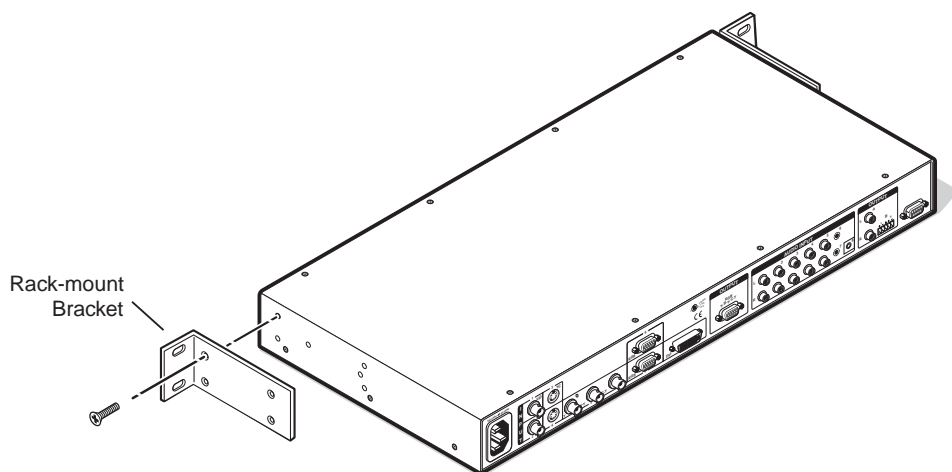

Figure 2-1 — Mounting the switcher
The following Underwriters Laboratories (UL) requirements pertain to the installation of the switcher into a rack (figure 2-1).
1. Attach the rack mounting brackets to the switcher with the supplied eight #8 machine screws (figure 2-1).